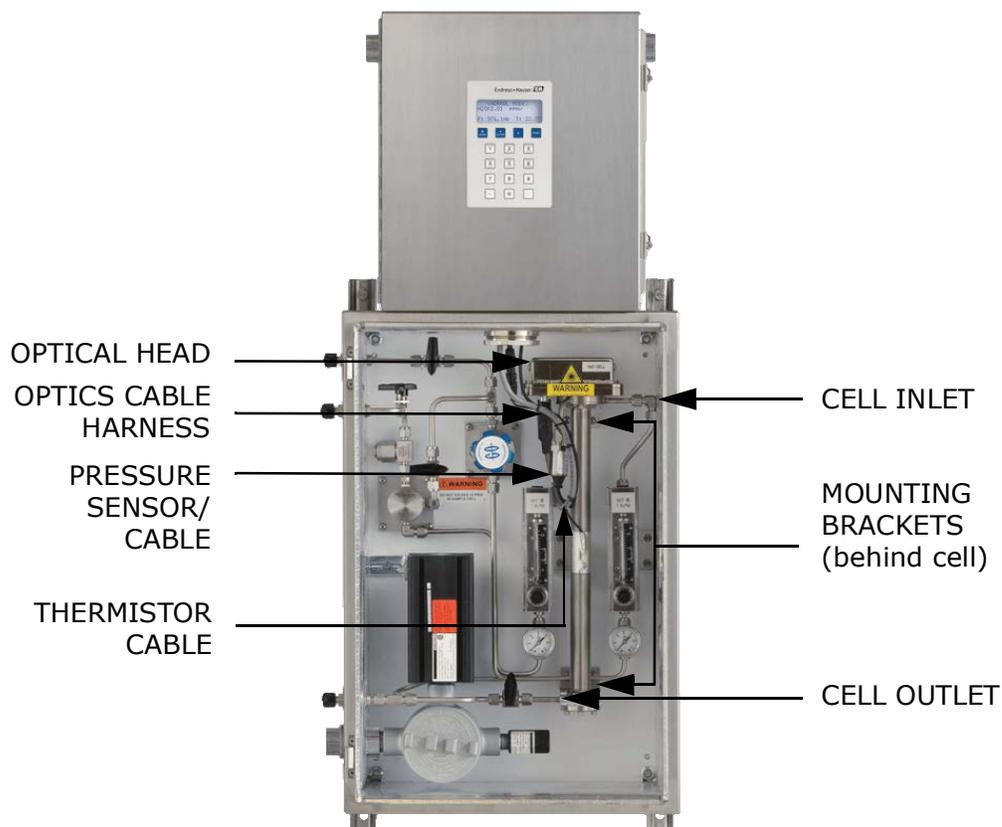

Figure B-4 SS500e/SS2000e SCS cabinet interior
- 5.** Open the door to the gas analyzer. Refer to Figure B-4. In this view, the old model pressure sensor is pictured.